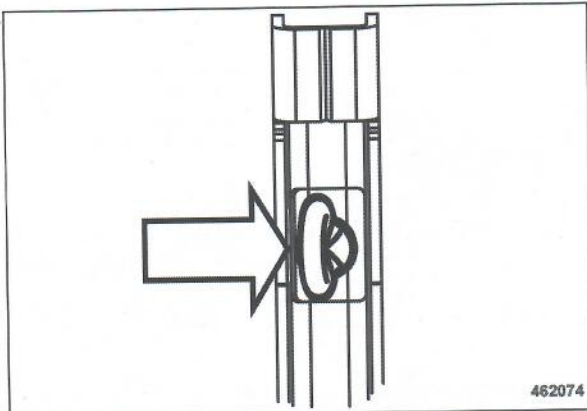

Fig. 54
- Adjust the clamping plates on both sides vertically (Fig. 54).